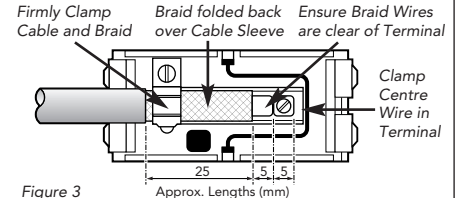

Figure 3
2. Strip the cable to the dimensions shown in Figure 3 folding the exposed screening braid back over the cable sleeve.
3. Connect the inner conductor to the square terminal block and securely clamp the screening braid under the clamp ensuring that there are no loose conductor strands which could cause short circuits (Figure 3).